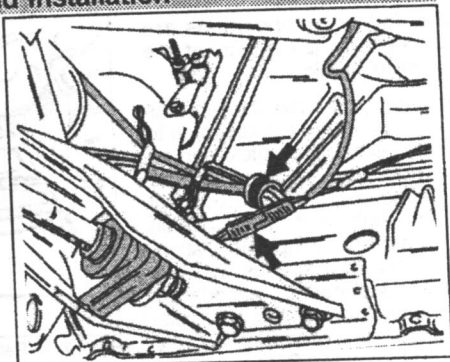

Fig. 1.9. — Cables must be disconnected at the positions shown by the arrows.
- Remove the two lower fastenings from the electric fan unit and free the wiring clips. Fig. 1.9 shows where some of the connections are located.